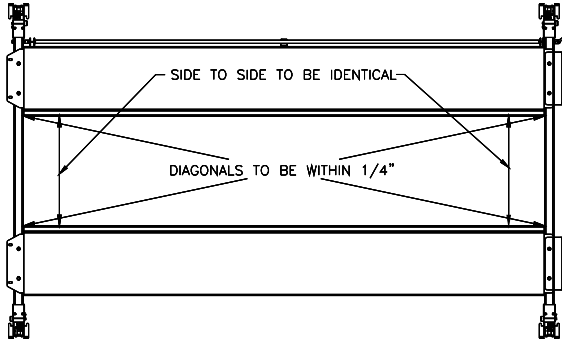

Fig 13 – Final Runway Positioning
- 20) Check the layout of the lift in the bay. If anchoring the lift, this is the last chance to make adjustments. Adjust the position of the runways so the distance from power side jack rail to idler side jack rail is the same at the front and the rear and the diagonal measurements from the front tip of one rail to rear tip of the opposite rail are within 1/4", **Fig 13**.